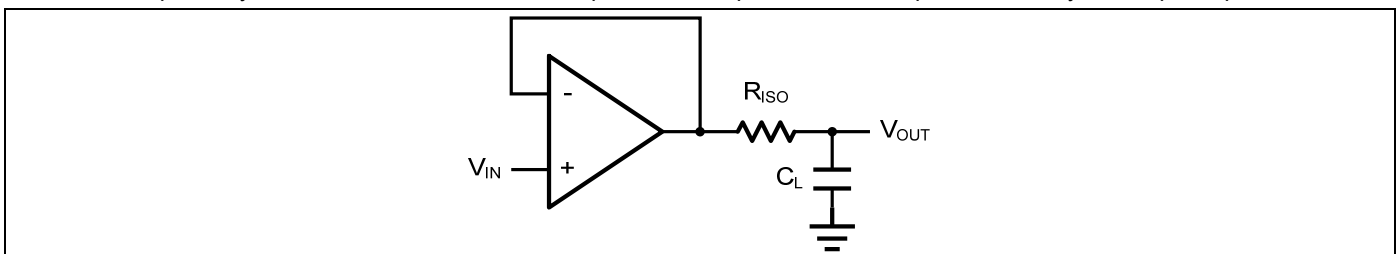
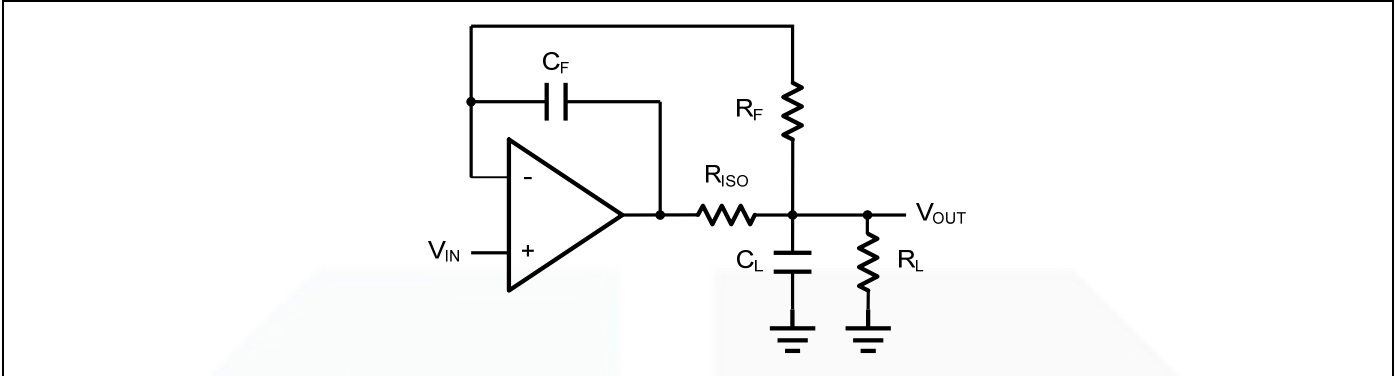

Figure 2. Indirectly Driving a Capacitive Load Using Isolation Resistor
Figure 3. Indirectly Driving a Capacitive Load with DC Accuracy
The GS862X family is optimized for bandwidth and speed, not for driving capacitive loads. Output capacitance will create a pole in the amplifier's feedback path, leading to excessive peaking and potential oscillation. If dealing with load capacitance is a requirement of the application, the two strategies to consider are (1) using a small resistor in series with the amplifier's output and the load capacitance and (2) reducing the bandwidth of the amplifier's feedback loop by increasing the overall noise gain. Figure 2. shows a unity gain follower using the series resistor strategy. The resistor isolates the output from the capacitance and, more importantly, creates a zero in the feedback path that compensates for the pole created by the output capacitance.
The circuit in Figure 3 is an improvement to the one in Figure 2. R_F provides the DC accuracy by feed-forward the V_{IN} to R_L . C_F and R_{ISO} serve to counteract the loss of phase margin by feeding the high frequency component of the output signal back to the amplifier's inverting input, thereby preserving the phase margin in the overall feedback loop. Capacitive drive can be increased by increasing the value of C_F . This in turn will slow down the pulse response.